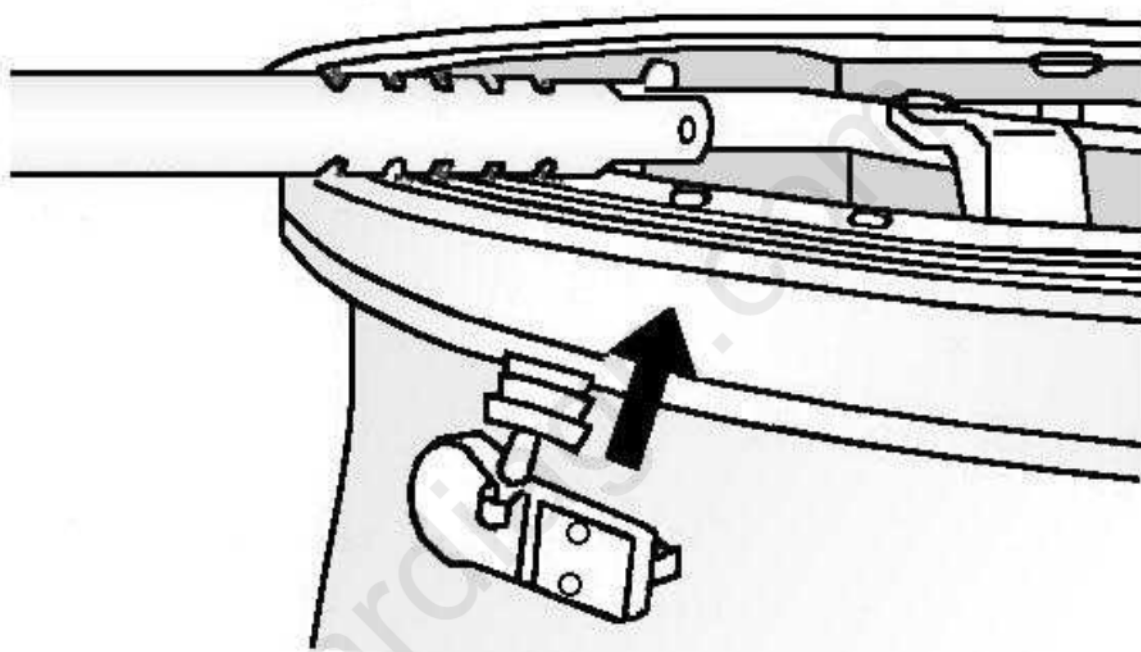

Fig. 4: Installation Of Snap-In Sensor/Valve Assembly
3. Using a tire valve stem mounting tool, pull the valve stem through in a direction parallel to the valve hole on the rim. See Fig. 4.